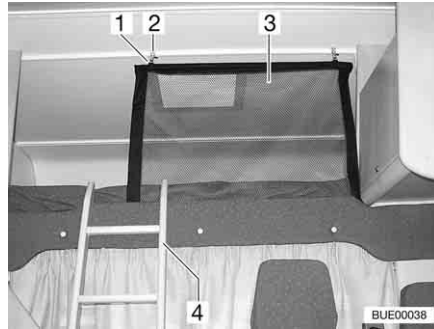
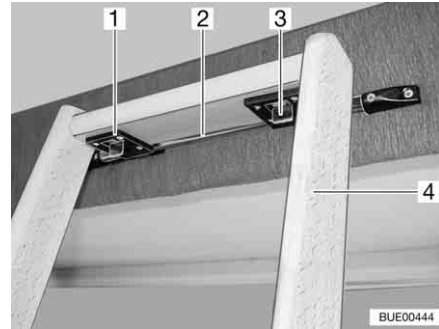

Fig. 109 Overcab bed
Fig. 110 Access ladder, catch
Always use the access ladder (Fig. 109,4 and Fig. 110,4) provided as standard to access the overcab bed.
- Hang the ladder with the two hooks (Fig. 110,1) on the rail (Fig. 110,2) of the alcove flap.
- Push the two catches (Fig. 110,3) forward.
The safety net (Fig. 109,3) is stored as standard between the mattress and slatted frame. Only use the safety net if persons are already in the alcove.
- Attach the holder (Fig. 109,1) to the eyes on the ceiling (Fig. 109,2).